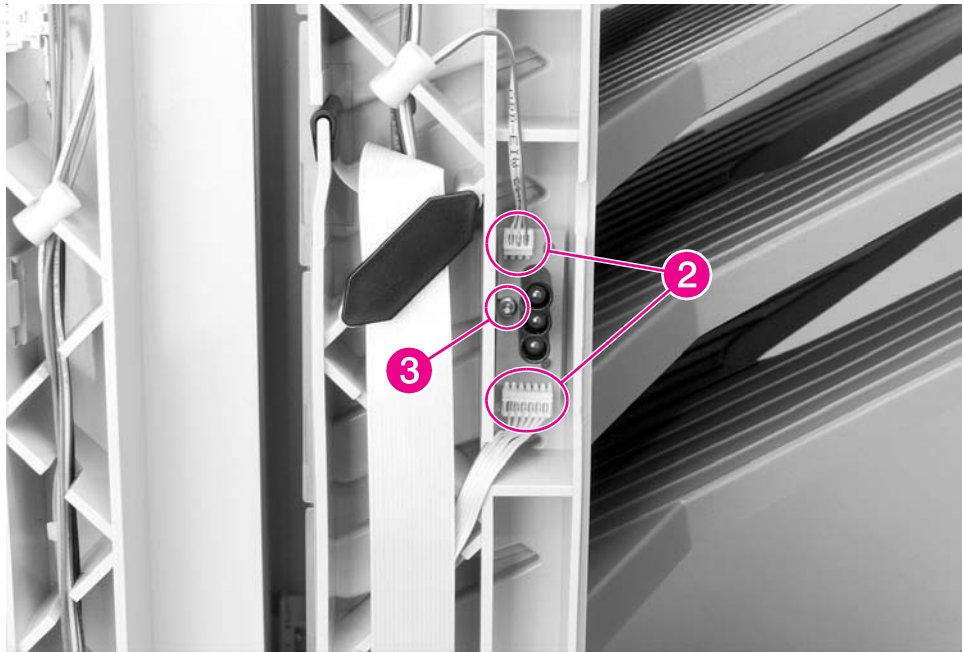

Figure 6-175 8-bin Mailbox Diagnostic LED PCA (2 of 2)
- 3 Disconnect the 2 flat cables from the Diagnostic LED PCA (Figure 6-175, callout 2).